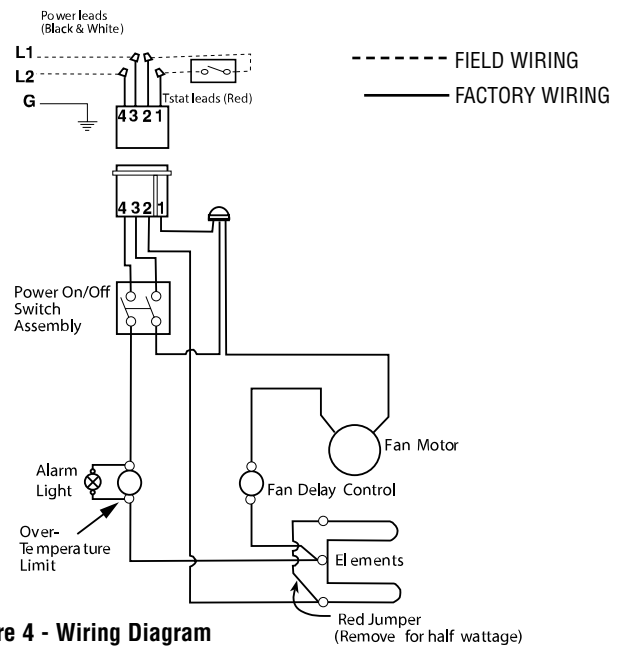

Figure 4 - Wiring Diagram
1. Following wiring diagram (Figure 4) connect supply wiring and thermostat wiring to heater lead wires in back box.